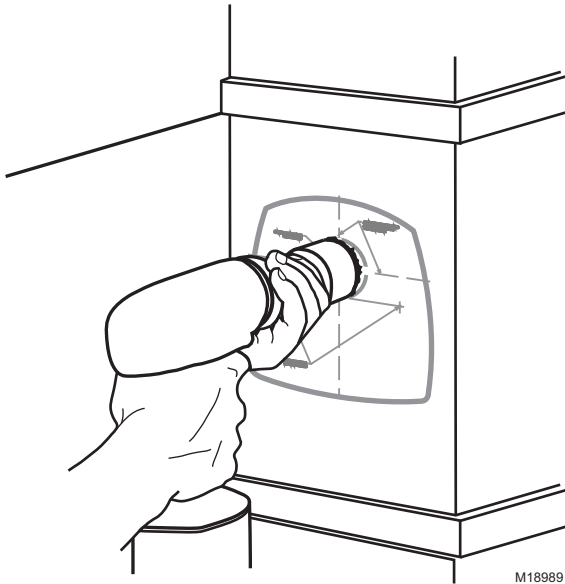

Fig. 5. Cut the bulb hole in the duct.
3. Cut the 2 in. bulb hole in the duct. See Fig 5. Remove any burrs.